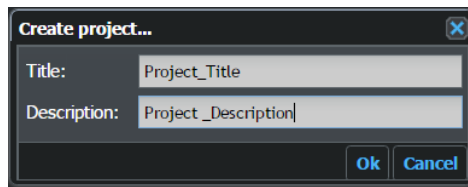

Fig. 6-161: Create Project Dialog
- 2 In the **Create project...** dialog enter a Title and Description for the new project, see Figure 6-161.: